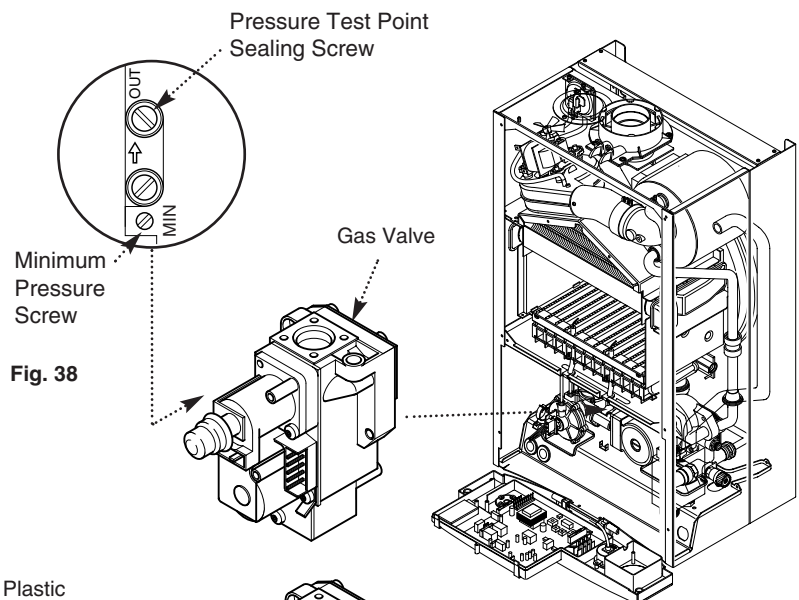

Fig. 38
3. Slacken the pressure test point sealing screw on the gas valve and connect a pressure gauge (Fig. 38).